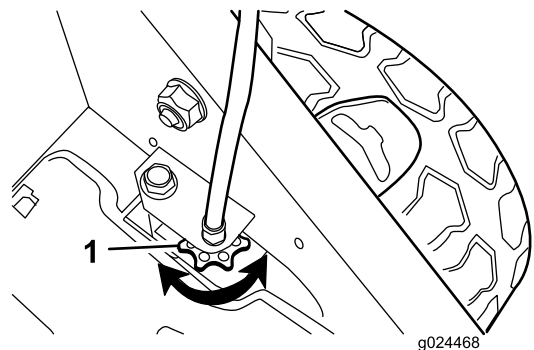

Figure 26
8. Use your finger to coat the gasket on the new oil filter with oil (Figure 26).
- If the wheels do not spin when you engage the self-propel-drive bar, the traction belt is too loose. Rotate the wheel-drive-control knob (Figure 26) clockwise 1 turn and repeat steps 4 through 6.
- If the wheels spin before you fully engage the self-propel-drive bar, the traction belt is too tight. Rotate the wheel-drive-control knob (Figure 26) counterclockwise 1 turn and repeat steps 4 through 6.